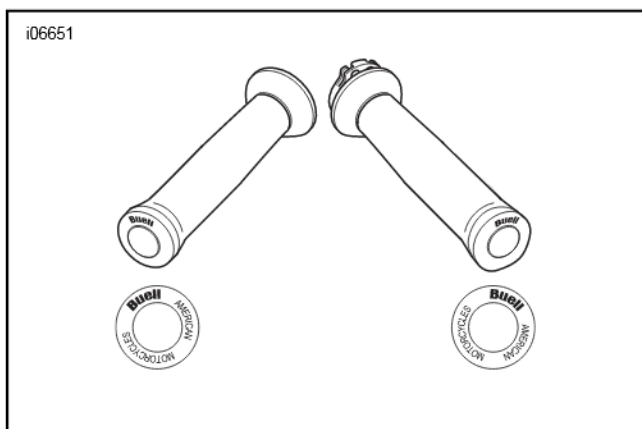

Figure 1. Matching Handgrip Logo Positions
7. See Figure 1. Position the BUELL® logo on the end of the left handgrip to match the BUELL® logo on the right handgrip and immediately push the new left handgrip onto the handlebar until the handgrip stops against the handlebar end.